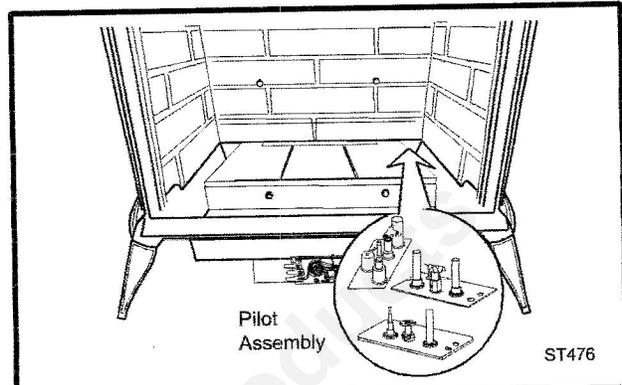
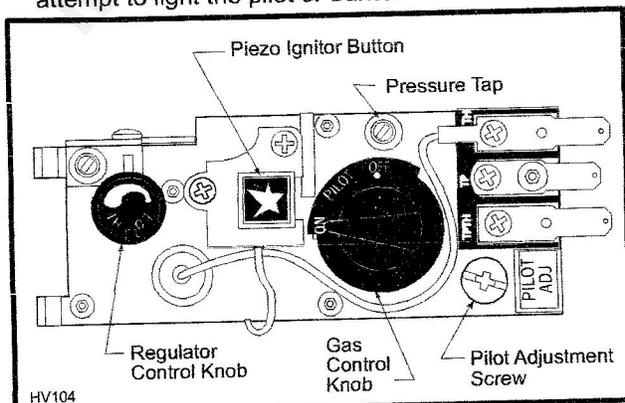

Fig. 61 Pilot Assembly location.
Fig. 65 Valve controls.
Read these instructions carefully and familiarize yourself with the burner controls shown in Figure 65. Locate the pilot assembly, Figure 61. Follow the lighting instructions on Page 30 exactly.
3. Turn the Regulator Control Knob to HI. (Fig. 65). Smell for gas. Inspect the unit for any obvious sign of damage or deterioration. If it is damaged, do not attempt to light the pilot or burner.
1. If the manual switch is in remote position, switch it to LOCAL. (Fig. 65)